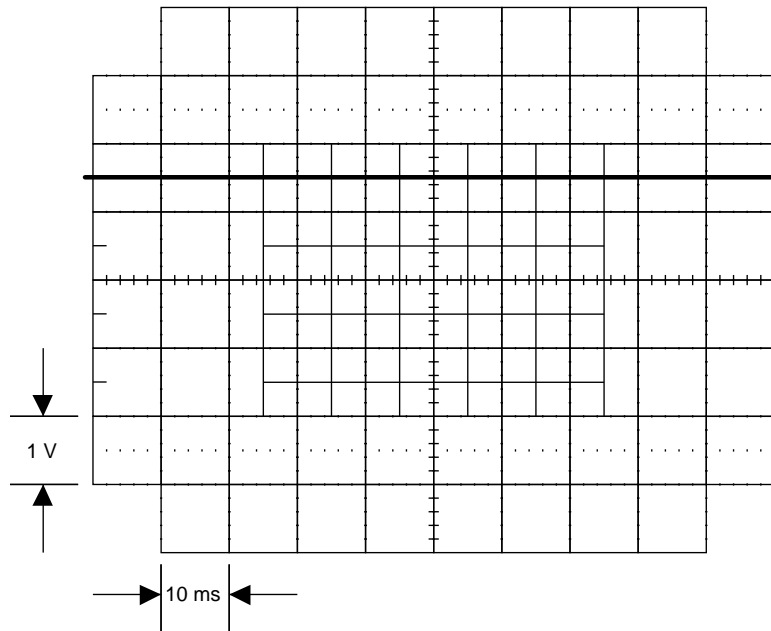

Figure 5-29. DC Sense Buffer Waveform TP6
8. Check the DC SENSE BUFFER and the AC SENSE BUFFER. Set the 5700A to 1.0V at 1 kHz, operate. Connect an oscilloscope to TP6 (common to TP2) which is the input to the AC/DC sensor. The oscilloscope display should be switching between Figure 5-29, which is the output of the DC SENSE BUFFER circuit and